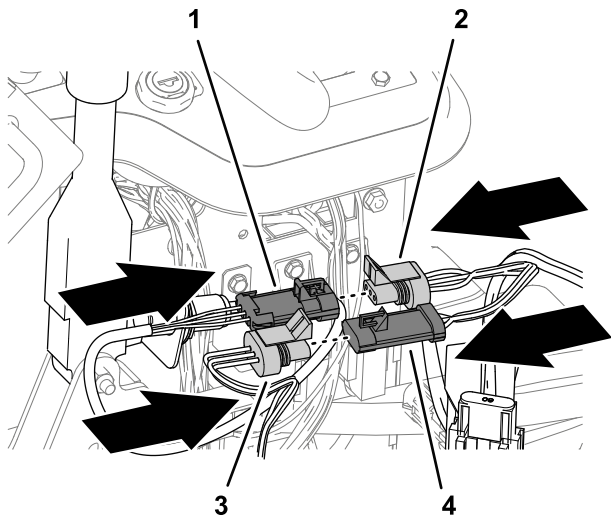

Figure 15
2. Connect the 3-socket connector of the parking-brake switch into the 3-pin connector of the power harness (Figure 15).
3. Connect the 3-pin connector of the machine wire harness into the 3-socket connector of the power harness (Figure 15).